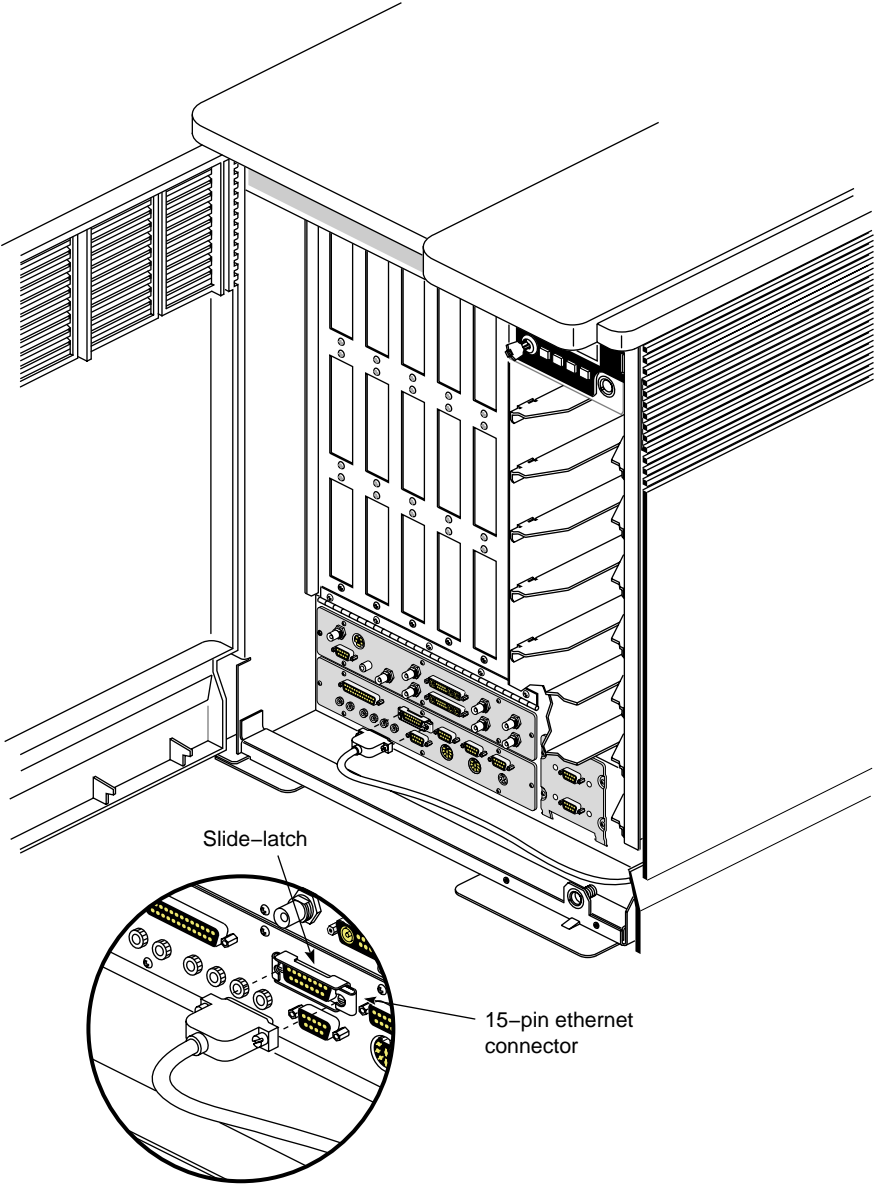

Figure 3-8 Connecting an Ethernet Cable
3. Plug in the Ethernet connector (make sure to secure the 15-pin connector with the slide latch). See Figure 3-8.